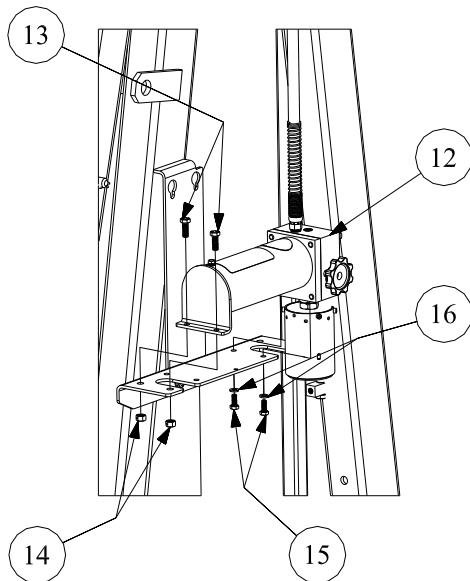

Figure 5
2. Mount the air pump [#12] to the pump bracket [#11] as shown in Figure 5. Use two 3/8" X 1" bolts [#13] and 3/8" nuts [#14] to secure the reservoir end of the air pump [#12]. The opposite end of the air pump [#12] is attached to the pump bracket [#11] using two 5/16" X 3/4" bolts [#15] and two 5/16" lock washers [#16]. The 5/16" X 3/4" bolts [#15] thread into tapped holes in the air pump [#12].